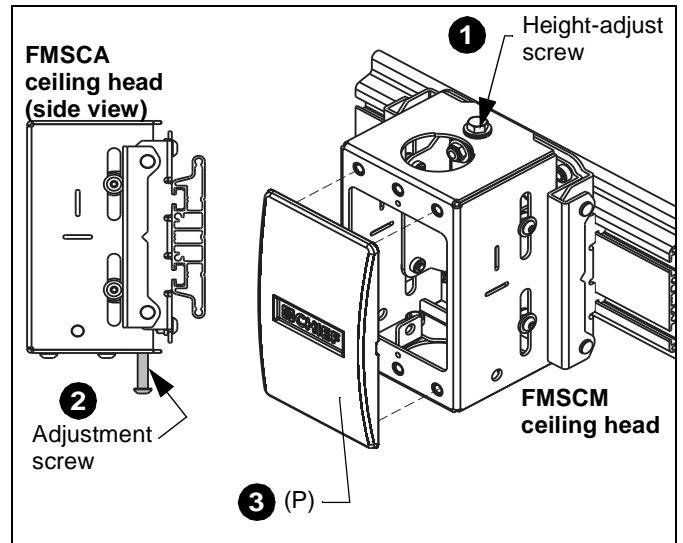

Figure 7
1. Adjust the height of the ceiling head, as necessary, to level the mounting rail across the columns. (See Figure 7)
3. Add back cover (P) to ceiling head (K or L). (See Figure 7)